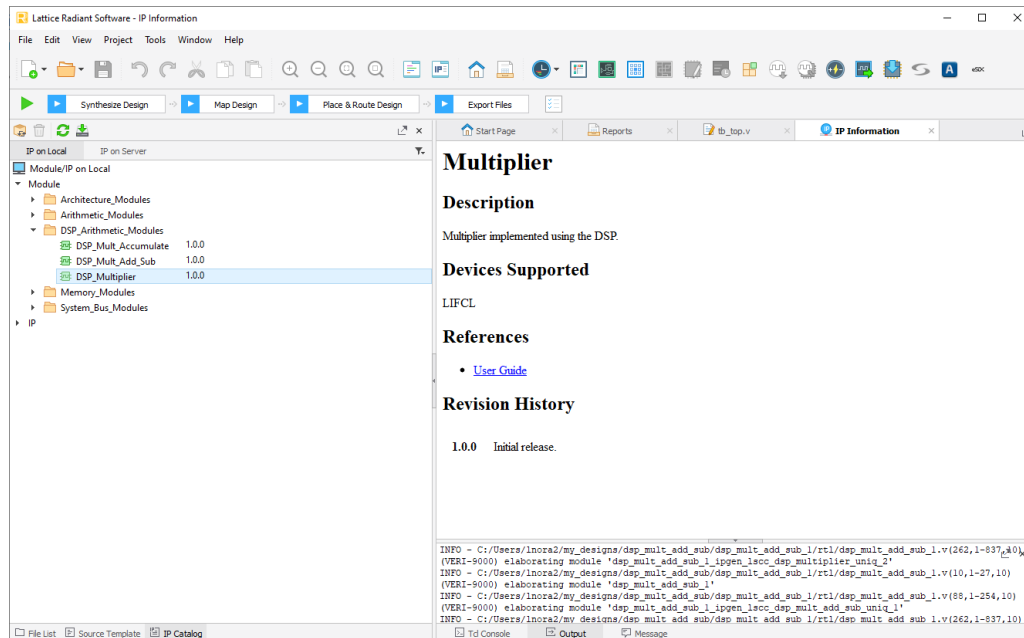

Figure 3.3. Example: Generating 32-bit Multiplier in IP Configuration
2. Fill out the following information then click **Next**. An example is shown in Figure 3.3.
3. In the **IP Configuration** page, customize the Multiplier by selecting options as shown in Figure 3.3.